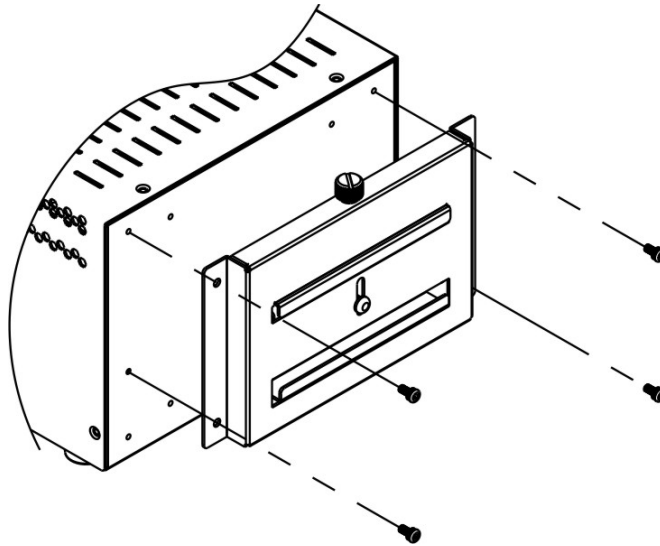

Figure 4-14: DIN Rail Mounting Bracket
Step 1: Attach the DIN rail mounting bracket to the bottom panel of the embedded system. Secure the bracket to the embedded system with the supplied retention screws (**Figure 4-14**).